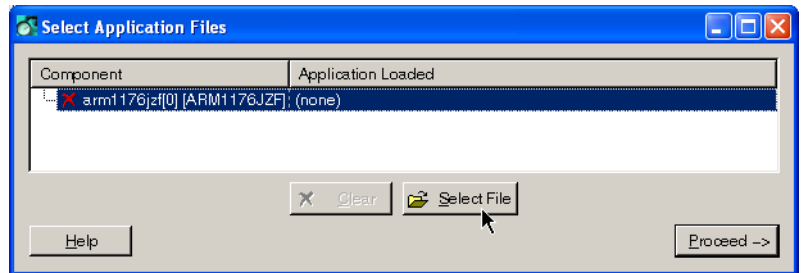

Figure 7-8 Select application files
3. Click on **Select File** as Figure 7-8 shows. This opens a file browser dialog box named Select The Application Code.